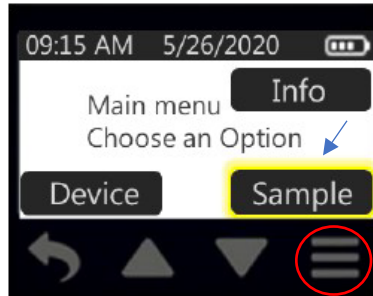

Figure 21. Sample Button
1. Press the main menu button (three Horizontal lines below the display) to get to the Main Menu and touch Sample (Figure 21).